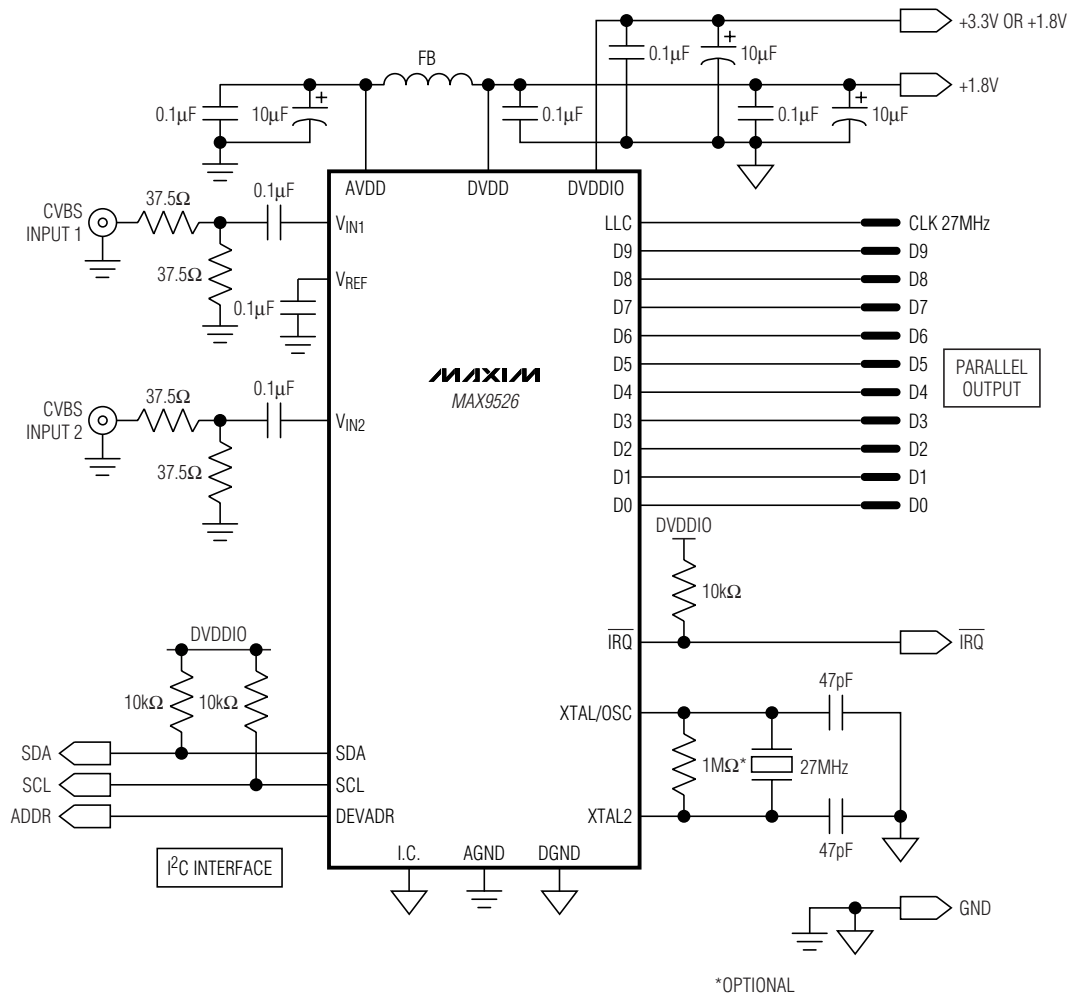

Figure 8. MAX9526 Typical Application Circuit with Additional Supply Isolation
For systems where additional power-supply isolation is required, the circuit shown in Figure 8 can be used. Additional supply decoupling is added and analog power (AVDD) isolation is increased with the use of a ferrite bead (FB). The analog ground connection (AGND) should be connected to a separate ground plane that has a small bridge to the main ground plane of the system. The video input termination (V_{IN1}/V_{IN2}), video reference (V_{REF}) decoupling, and AVDD supply decoupling should also be connected to the AGND ground plane.